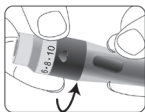

Figure 22
STEP 1: Twist off the Lancing Device Cover. See Figure 22.